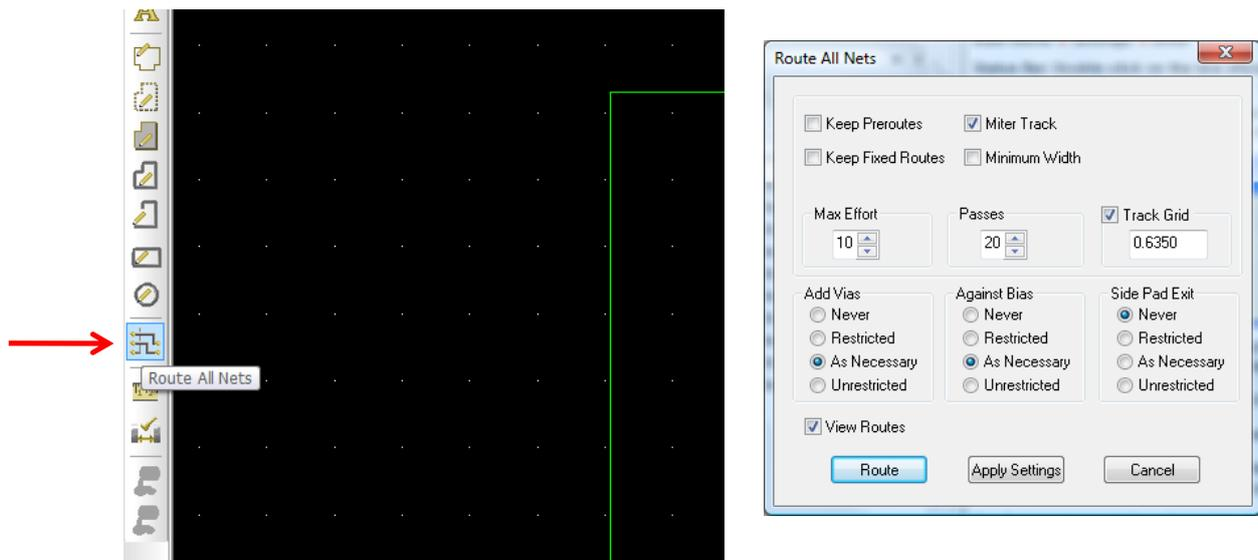

Figure 6-13: Auto-Routing the PCB
11. Select the "Route All Nets" icon as shown in Figure 6-13, which will result in the pop-up screen as shown on the right.